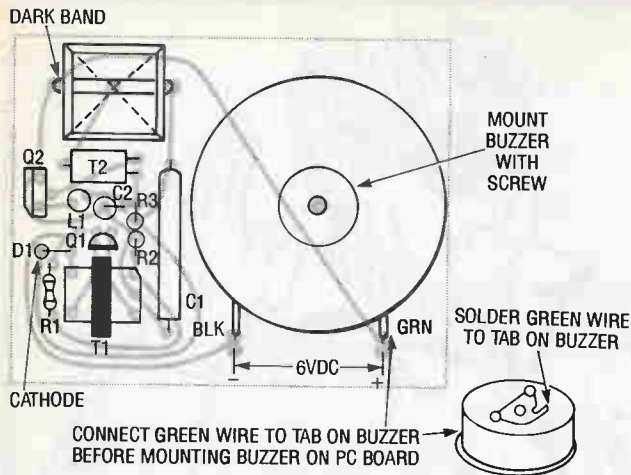

Figure 2. The Parts Layout. Be sure to install R2 and R3 before installing capacitor C1, or you won't have enough room to work.
1. Follow the parts-placement diagram in Figure 2 along with the Parts List. Verify that you have all the necessary components, and that your solder is rosin-core.